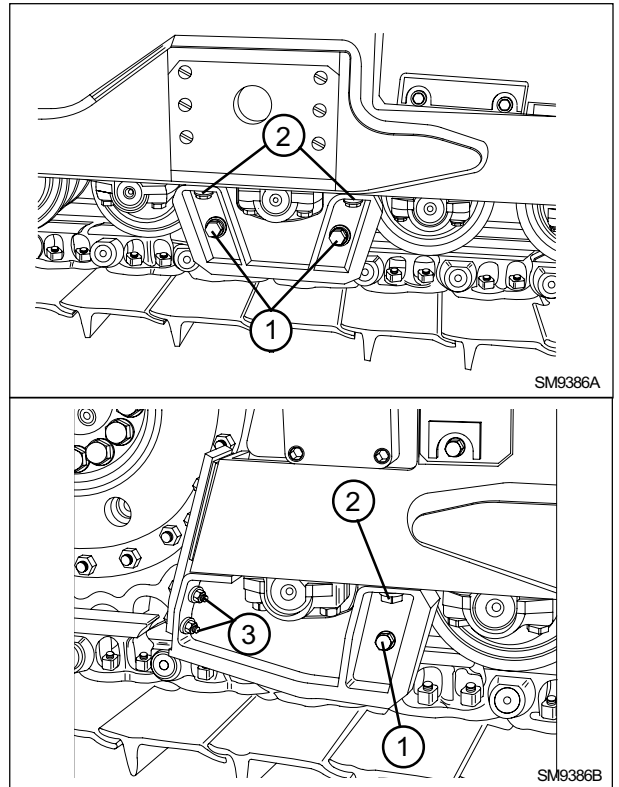

Fig. 33
1. Remove screws (1, 2 and 3 fig. 33) and remove the bottom roller inner and outer guards. Salvage the spacers mounted coaxial with screws (1).